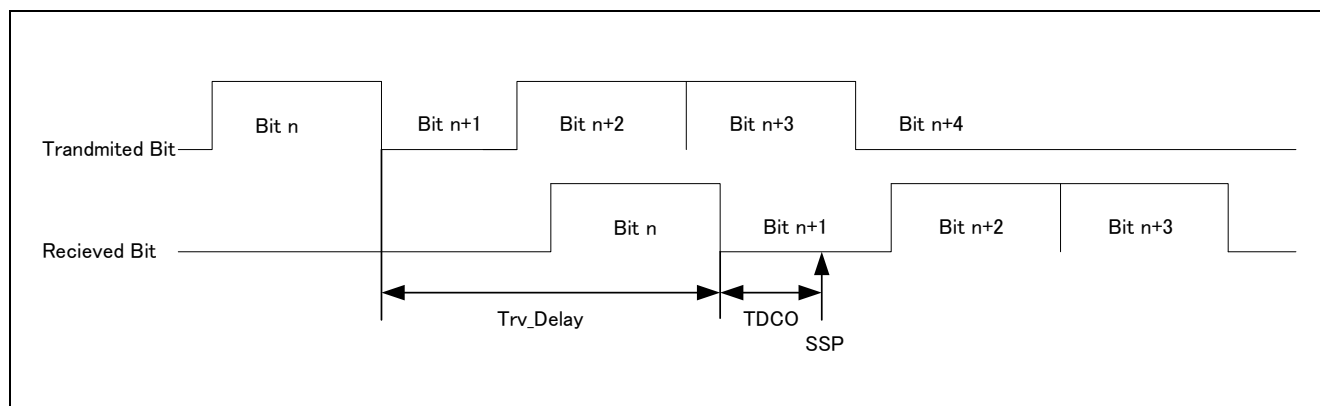

Figure 11-1 SSP Timing
**Figure 11-1** shows the SSP timing.